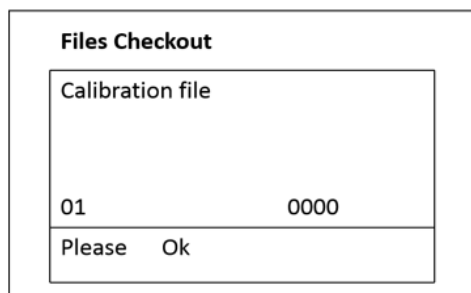

Figure 14
- 3) Press  to enter the **files checkout** page (figure 14).
- Press  to confirm the password and then go to **files checkout** page (figure 14).